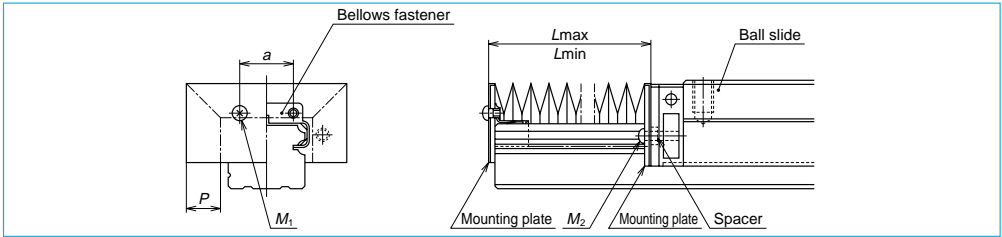

Fig. II-5-10
#### \*Installation in the ball slide (Fig. II-5-10)
- Remove two machine screws (M2) which secure the end seals to the end of the ball slide (Fig. II-5.10).
- To install bellows for LH Series and LS Series, lightly knock a fastener exclusively for bellows to the end of the rail (Fig. II-5.10). Then secure the mounting plate at the end of the bellows through the tap hole of the fastener.